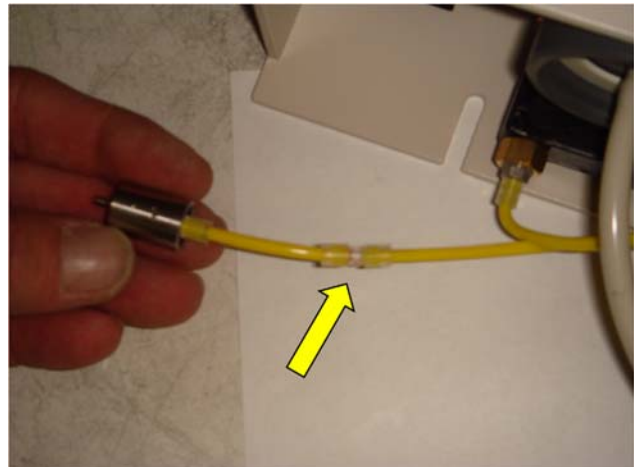

Fig. 6
8. Slide tubing sleeve over the barb using a sleeve tool. (Fig. 6)